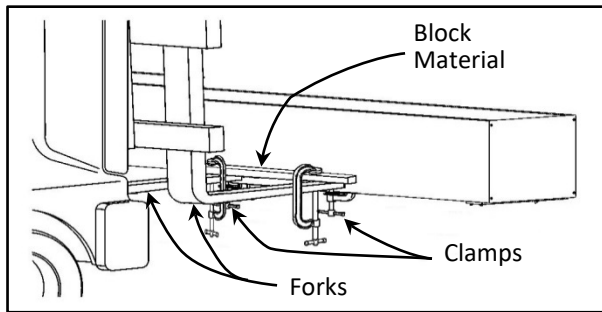
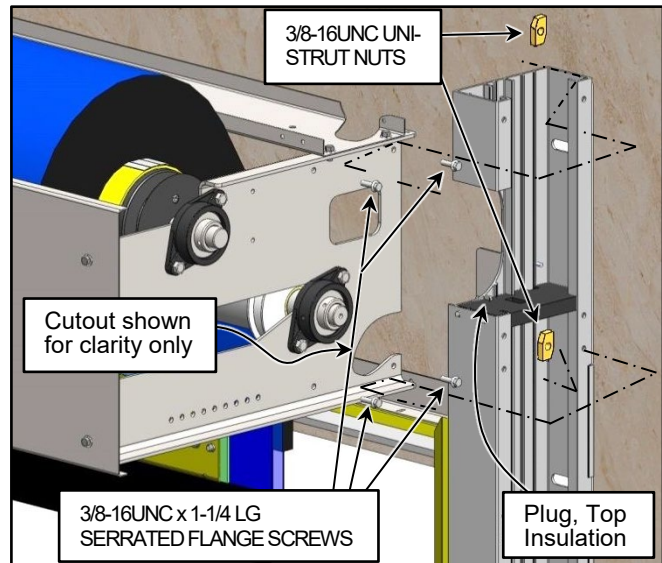

Figure 18
Figure 20 (Broken out view for clarity)
4. With the head assembly safely secured to the forklift, raise it up above the door to mount to the side columns. Guide the head in toward the wall while keeping the side column edges clear of the head assembly mating edges and wires exiting the top of the side columns. Line up the mating holes on the head assembly with the fastener holes in the side columns. (See Figure 18 - Figure 20)
5. Fasten the head to the level and plumb side column that's locked in place with the specified fasteners. DO NOT completely tighten the fasteners. Adjustments will need to be made yet. The hardware is located in the small parts carton. (See Figure 20)
- a. Install (4) $\frac{3}{8}$ -16UNC x $1\frac{1}{4}$ -in. hex flange machine screws and $\frac{3}{8}$ -16 Uni-Strut nuts on each side column/head mount (left and right side). (See Figure 20)
6. Next align and fasten the head assembly to the opposite side column just like in the previous steps. DO NOT completely tighten the fasteners. Adjustments will need to be made yet. (See Figure 20)